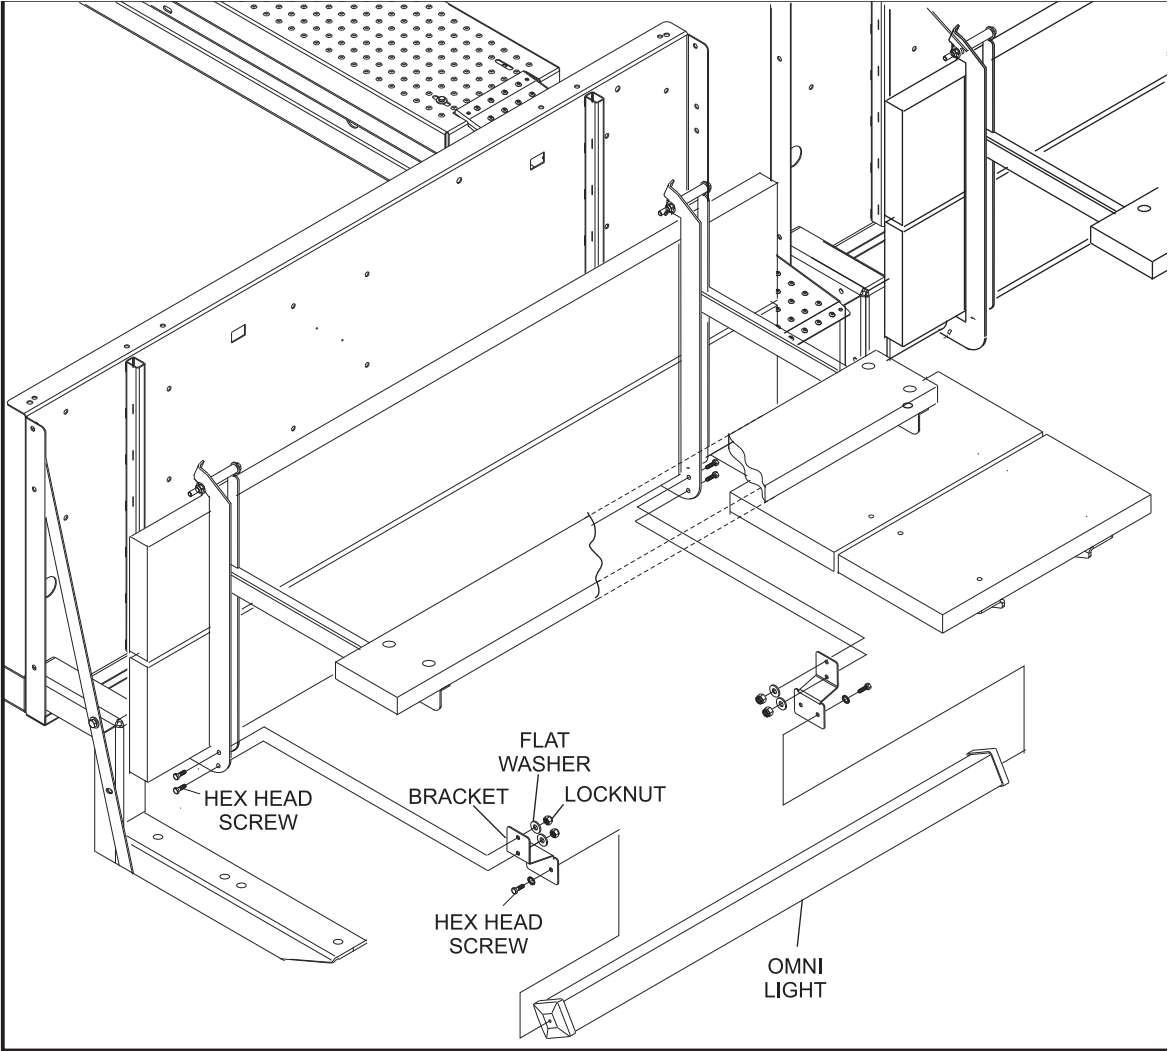

*Figure 7*
1. Install the ball return step boards using four Carriage Bolt (M8 x 55 mm) 11-052619-001, flat washers (M8) 11-052006-001, lockwasher (M8) 11-051770-001, and hex nuts (M8) 11-051704-001. Refer to *Figure 7*.
2. Mount the two ball return kickback brackets, 47-086390-000, to the ball return using four lag screws, (M10 x 50 mm) 11-053303-001. Refer to *Figure 7*.
3. Use the slots in the ball return kickback platform, 47-086384-000, to mount it to the the ball return kickback brackets using; four ea. Hex Head Cap Screw (M6 x 16 mm) 11-051035-001 and Flat Washers (6.4 mm ID x 18 mm) 11-052037-001. Refer to *Figure 7*.